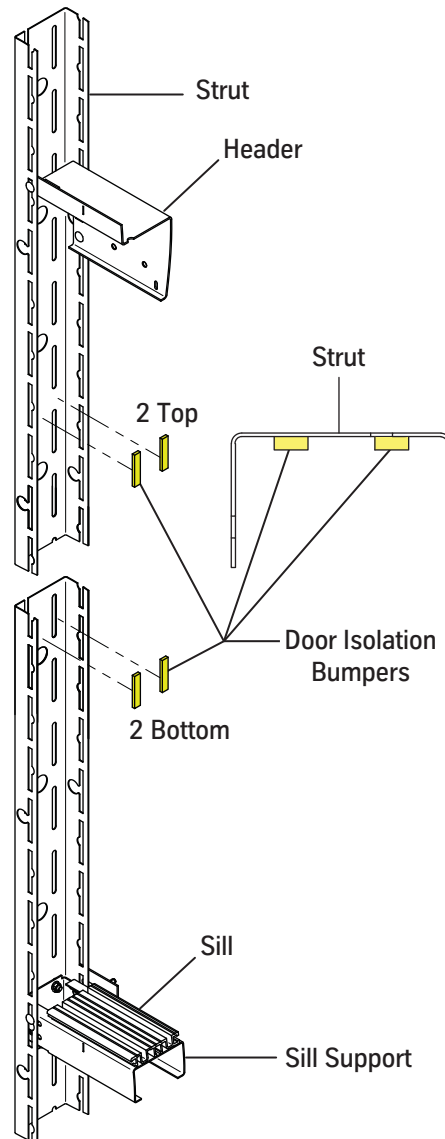

Figure 10 - Door Isolation Bumpers
3. Install the door isolation bumpers. See Figure 10.